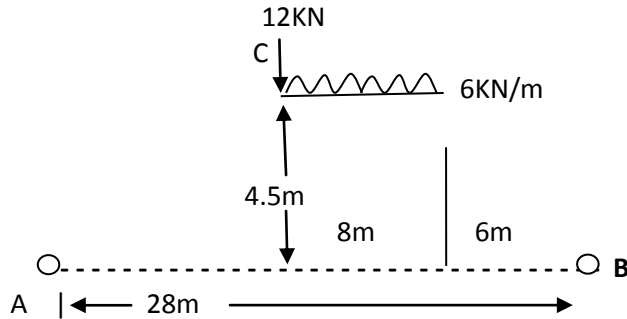

fig 7.
Q.9 A two hinged parabolic arch of span 28m and central rise 4.5 m as shown in fig 7 Find horizontal thrust and radial shear at 10m from right support.  $I=I\sec\theta$ . 15